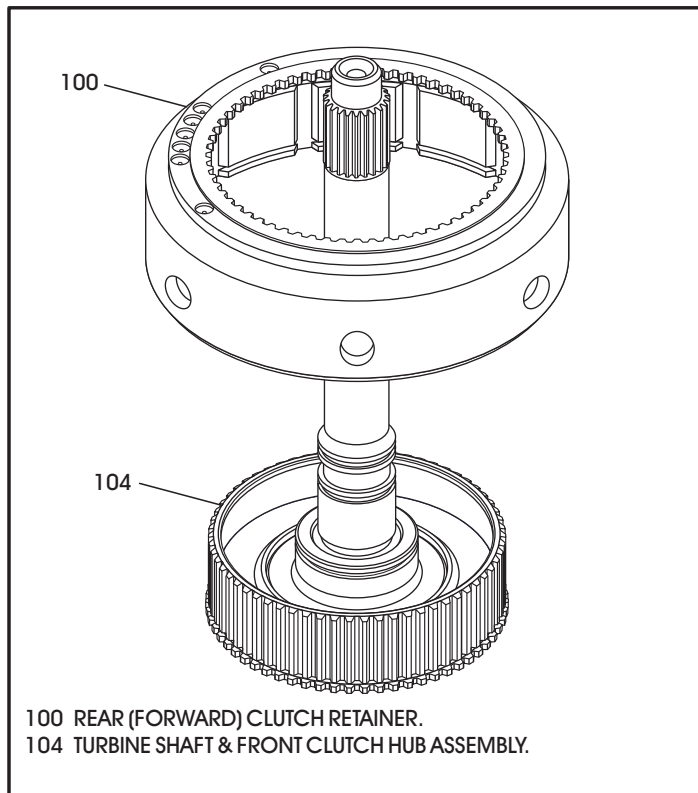

Figure 122
4. Install the forward clutch retainer over the input shaft and onto splines of direct clutch hub, as shown in Figure 122.